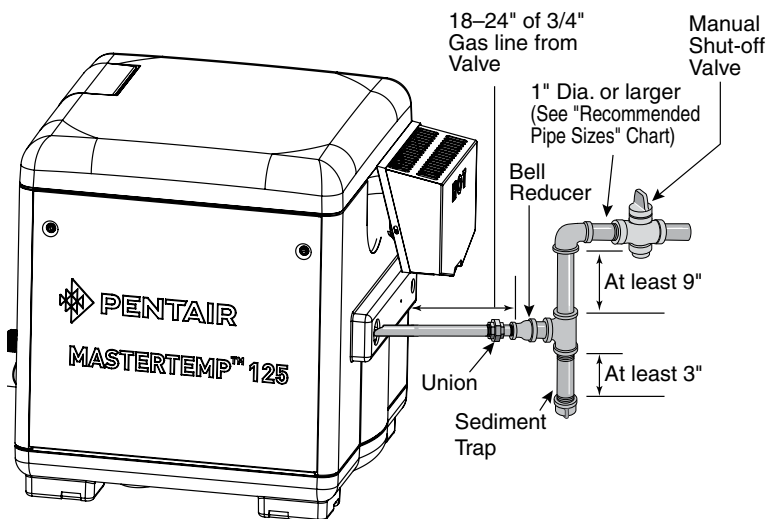

Figure 8.
The heater requires a gas supply of not less than 4" (10.2 cm) wc and not more than 14" (35.6 cm) wc. Gas supply pressures outside of this range may result in improper burner operation. A minimum flowing or dynamic inlet pressure (while the heater is running) of 4" (10.2cm) wc is required to maintain input rating with no more than a 2" pressure drop between static and dynamic. The gas supply must be installed in accordance with the *National Fuel Gas Code, ANSI Z223.1*, or standard *CSA B149.1, Natural Gas and Propane Installation Codes*, as applicable and all applicable local codes. Install a manual shut-off valve and a sediment trap and union located outside the heater panels, see Figure 8. Do not use a restrictive gas cock. The following minimum gas pipe sizes are recommended for natural gas supply piping, see Table 2 on page 17. For low pressure LP gas, pipe size may be reduced by 1/4", with a minimum pipe size of 1/2". Check for compliance with local codes.
Install a sediment trap and union located outside the heater panels in accordance with National code requirements. Do not use a restrictive gas cock. The sediment trap shall be either a tee fitting with a capped nipple in the bottom outlet which can be removed for cleaning, as shown in Figure 8, or an other device recognized as an effective sediment trap. All gas piping should be tested after installation in accordance with local codes.
If the heater is located under a roof overhang, there must be at least three (3) feet (1m) of clearance between the bottom of the overhang and the top of the heater exhaust vent, see Figure 8. If the heater is under a roof overhang, the space around the heater must be open on three sides. **DO NOT, under any circumstances, install the heater under ANY deck.**